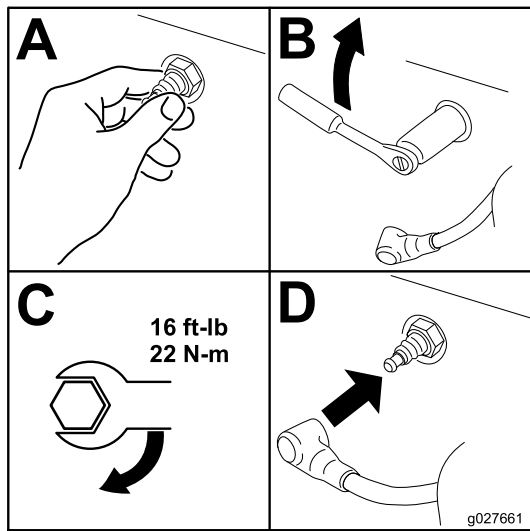

Figure 66
1. Install the spark plug(s) as shown in Figure 66.